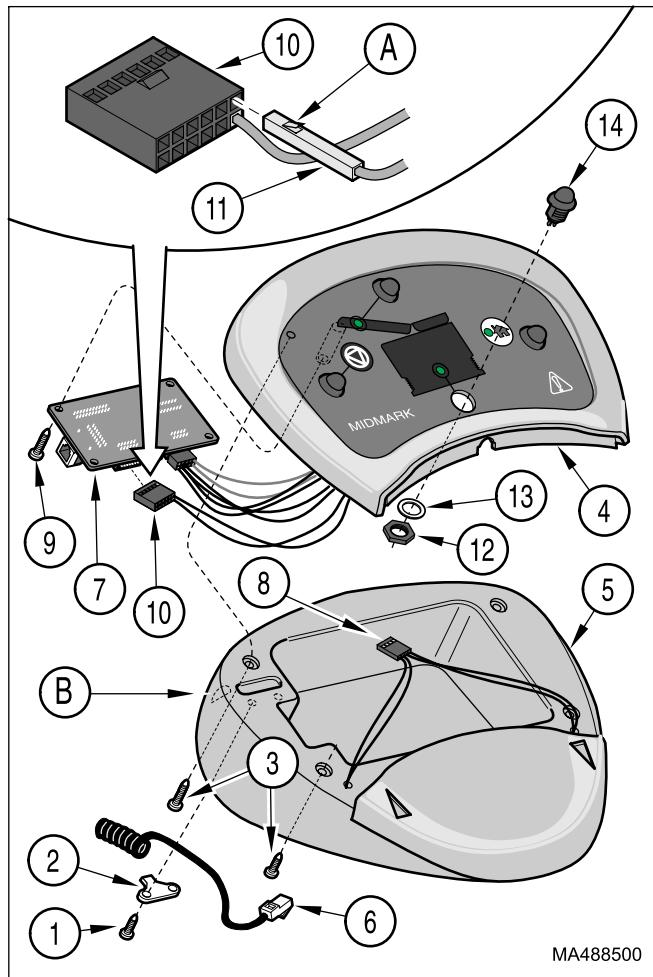

Figure 4-26. Foot Control Function Button Switch Removal / Installation
- (1) Unplug the foot control cord from the table.
- (2) Remove two screws (1, Figure 4-26) and strain relief bracket (2).
- (3) Remove four screws (3) and partially separate foot control top (4) from foot control base (5).
- (4) Disconnect foot control cord (6) from PC board (7).
- (5) Disconnect wire harness (8) from PC board (7) and remove foot control top (4).
- (6) Remove four screws (9) and partially separate PC board (7) from foot control top (4).